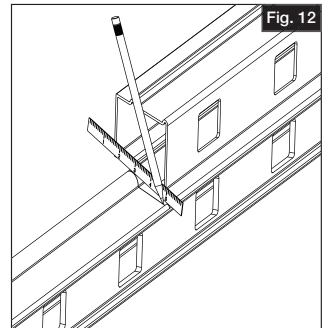

Fig. 12
Slide assembled rail section straight between both posts, and over each angled bracket base (Fig. 12).
- Mark the top rail (using the bottom rail and a steel rule as a guide) to the top edge of the rail (Fig. 12).